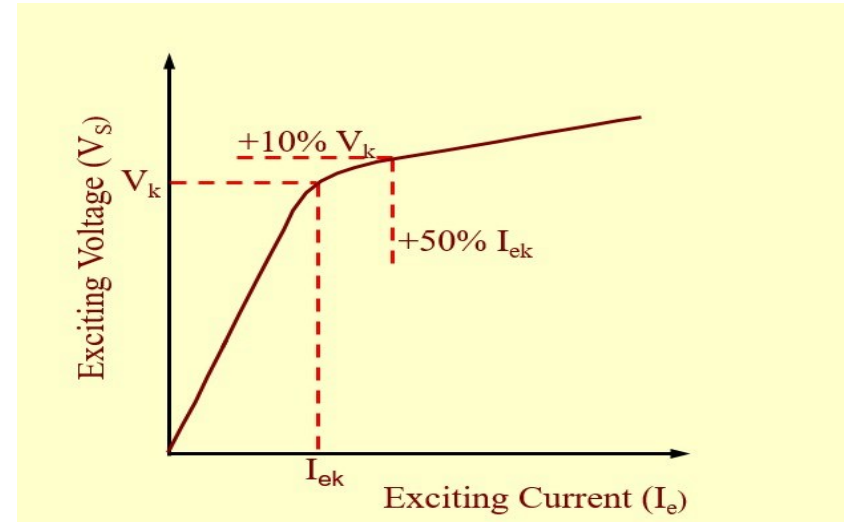

Figure 1.7: CT Knee-point Voltage
- Knee point voltage of a current transformer Figure 1.7 is the magnitude of secondary of current transformer. After or beyond this voltage the linearity between primary and secondary circuit that is the desired property of current transformer does not work anymore. Knee-point voltage E_{kn} is defined to be the point where a 10% increase in excitation voltage results in a 50% increase in excitation current. Figure